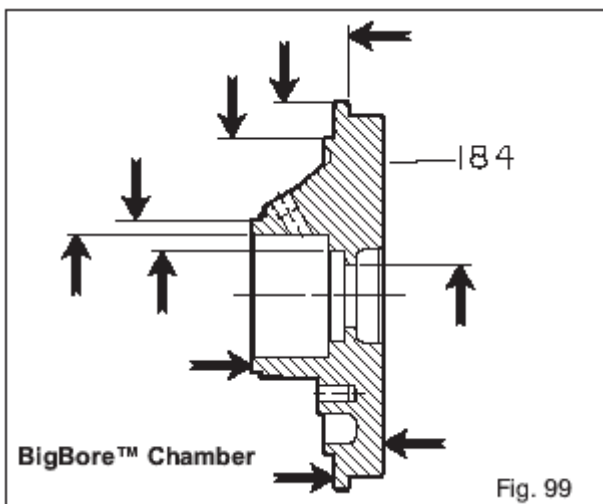

Fig. 99
Inspect seal chamber/stuffing box cover (184), dynamic seal backplate (444) and gasket surface as shown in Figs. 99 - 107
1. Make sure seal chamber/stuffing box cover (184) and dynamic seal backplate (444) gasket surface is clean at adapter face